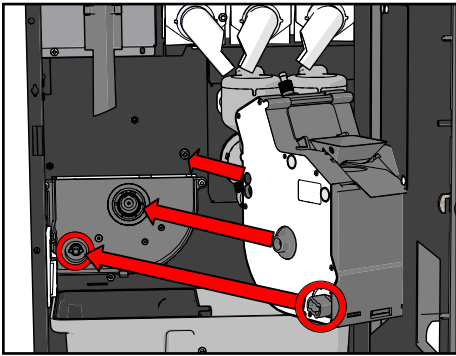

Figure 43.
10. Replace the (dried) brewer in the machine and press it firmly (see Figure 43).
21. Replace the (dried) brewer in the machine and press it firmly (see Figure 43). Click the spout arm back onto the cabinet.